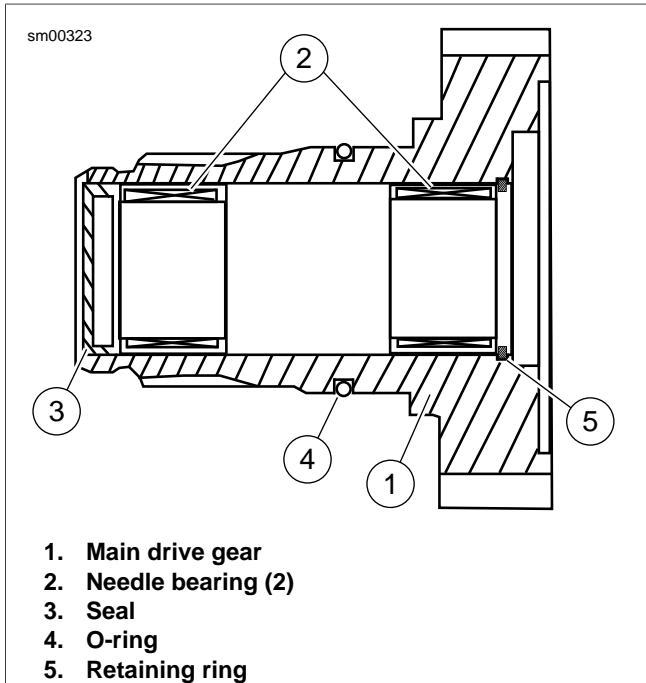

Figure 5-67. Main Drive Gear Assembly
- See Figure 5-67. From inside case tap out seal (3) at end of mainshaft 5th gear. Discard seal.
1. See Figure 5-67. Remove and discard retaining ring (5).
2. Drive out needle bearings (2) from inside bore of main drive gear (1) using appropriate bearing and bushing puller. Discard bearings. Do not reuse bearings after removal.
3. Remove o-ring (4) from outside of main drive gear and discard. Do not reuse o-ring after removal.